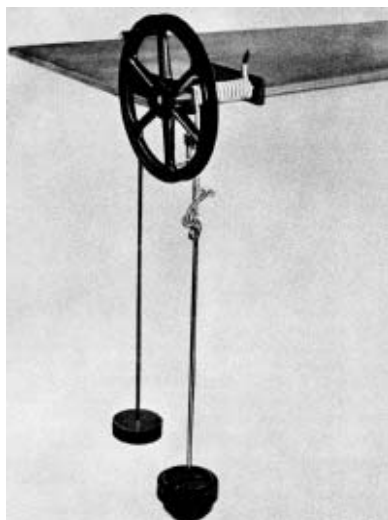
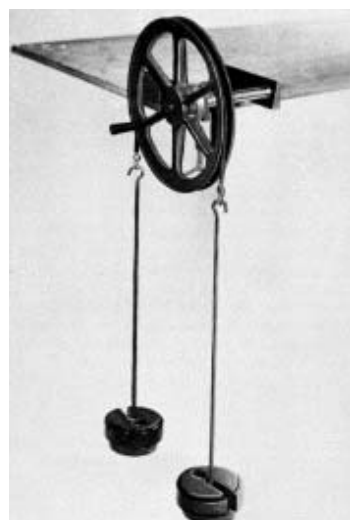
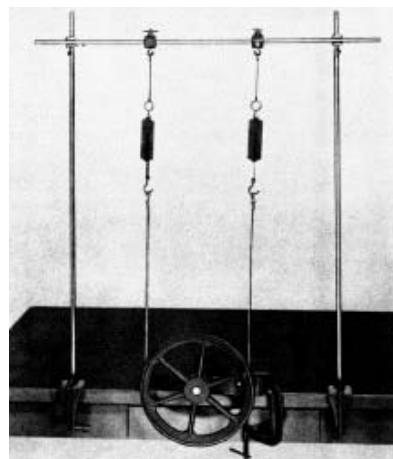

Fig. 1. The Windlass.
Fig. 2. Windlass Dynamometer, arranged for the measurement of "manpower."
Fig. 3. An alternative arrangement of the Windlass Dynamometer.
**METHOD:** The Ideal mechanical advantage of a windlass (Fig. 1) is determined from the measured ratio of the diameter of the large wheel of the windlass, to which the input force is applied, to that of the axle which supports the opposing load. The actual mechanical advantage is measured from the ratio of the load lifted to the applied force necessary to raise the load at uniform speed. The efficiency is calculated from the ratio of the ideal to the actual mechanical advantage. To determine the power he can develop, the observer turns the wheel (Fig. 2) against the friction caused by a belt dragging in the grooved wheel and attached to weights so that the force against which the observer is turning may be measured. The power is expressed in terms of these forces, the circumference of the pulley and the time required to make an observed number of revolutions.
**The Windlass Dynamometer:** A common method for measuring the average power developed by a machine is to use a brake, known as a *dynamometer* or *Prony brake*, whereon the energy output of the machine may be dissipated as heat. In the smaller machines, this brake conveniently take the form of a strap passing halfway around the pulley and supporting two weights as shown in Fig. 2. The net force against which the pulley turns is given by the difference between the force  $F_1$  opposing the motion and that force  $F_2$  which tends to assist in turning the wheel. The distance which the pulley travels against this force can easily be obtained from the circumference of the pulley and the number of revolutions which it makes. The working equation may be obtained by substituting in Eq. (9) the observed forces  $F_1$  and  $F_2$ , the diameter  $D$  of the wheel, and the number of revolutions  $N$  made in the time  $t$ . This gives for the average power
**APPARATUS:** The windlass, Fig. 1, consists of a large grooved wheel which turns with little friction in a heavy frame rigidly clamped to the table. The opposing force is attached to a rope which passes through a hole in the axle and winds around it as the wheel is turned. The applied force is furnished by suitable weights on a holder fastened to a cord which passes around the grooved wheel.
For the measurement of "manpower" the apparatus is arranged as in Fig. 2 as a windlass dynamometer, or Prony brake. The wheel is turned by hand with a handle near the edge. The frictional opposing force is supplied by a belt in the grooved wheel, the ends of the belt being attached to known weights. The belt is made of two portions of different materials, one part being leather and the other copper. This arrangement serves properly to balance the loads at the various speeds at which the brake is turned.
An alternative plan for applying the forces to the dynamometer is to have the apparatus arranged as in Fig. 3. Here the ends of the belt are attached to 15kg spring balances whose tension can be varied by vertically adjusting the horizontal rod which supports them.
Arrange the apparatus as in Fig.1. Measure the diameter of the axle with a vernier caliper and the diameter of the wheel with a meter stick. Make proper allowances for the thickness of the ropes and the depth of the groove. Calculate the ideal mechanical advantage from the ratio of the diameters.
**Measurement of Manpower:** Arrange the Prony brake as shown in Fig. 2. For one observation  $F_1$  may be about 6kg, while  $F_2$  may be about 1½kg. For the alternative arrangement (Fig. 3) both forces must be read while the wheel is turning. Turn the pulley as fast as possible, keeping the forces constant. A second observer should determine with a stop clock the time required to turn the wheel through a suitable number of counted revolutions (25 to 50). Record the necessary data and calculate the average power, both in British and metric units. Make all necessary original observations in both systems of units; i.e., measure  $D$  in both centimeters and in feet and the forces in both grams weight and pounds. Having calculated from the original independent data the power in horsepower and in watts, check the results by 746 and comparing with the observed